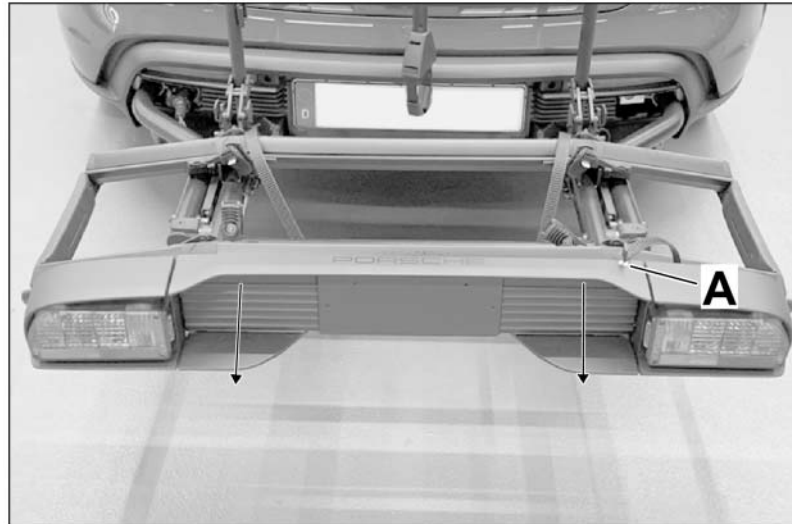

Figure 26
26. – **Important:** Make sure that the locking straps or the cable are not trapped by the flaps or the support bar during removal. Fold down the number plate holder. The lock ⇒ *Figure 26 -LHD vehicle* - must be opened before folding down the number plate holder.